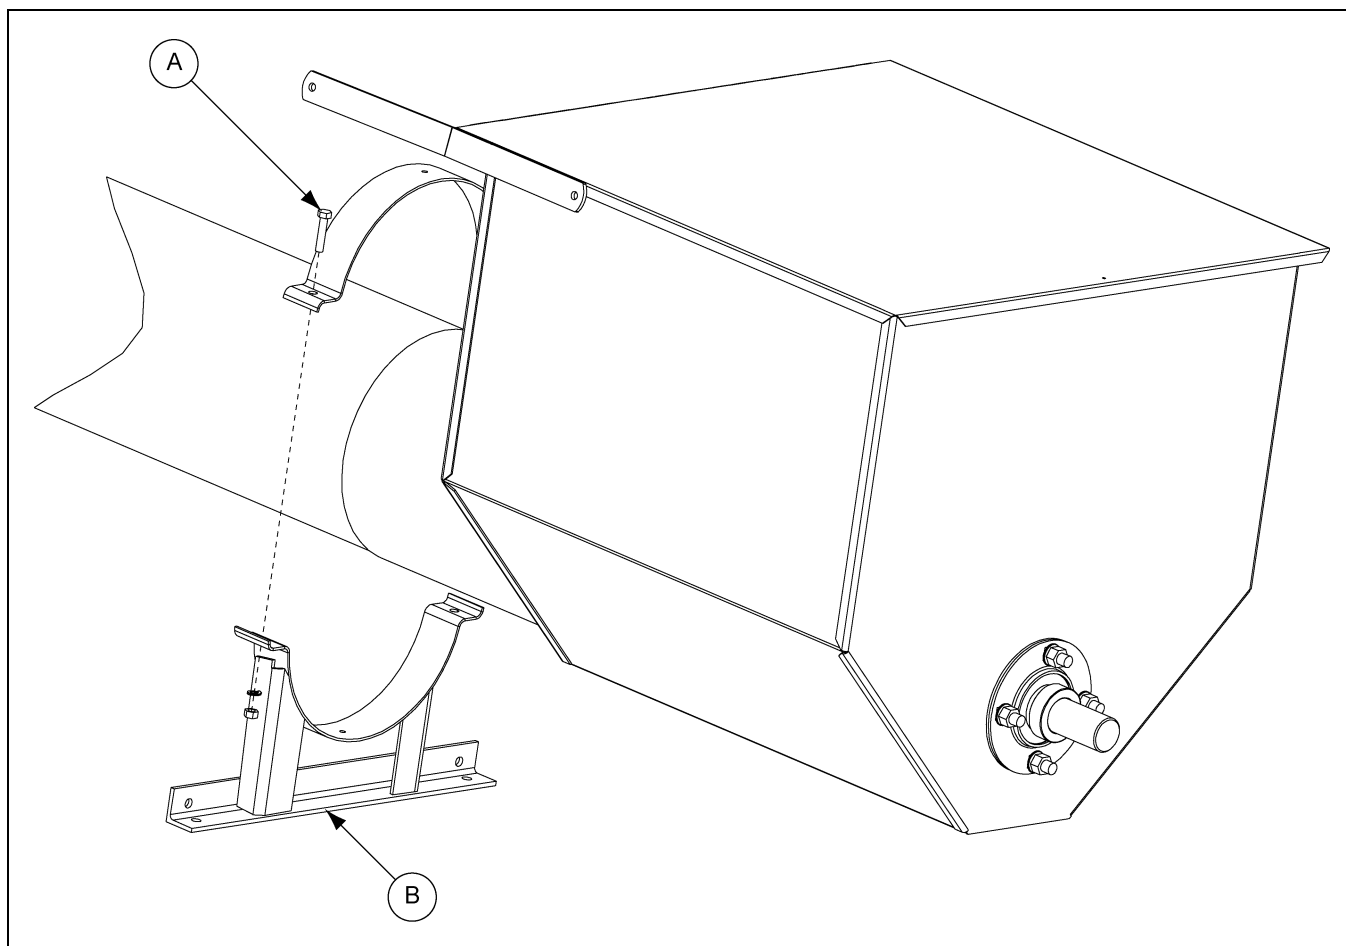

Figure 4AF
2. Install the shortest stand (B) as close to the intake hopper as possible. Positioning the stand as close as possible to the hopper will help to distribute the hoppers weight. *(See Figure 4AF.)*